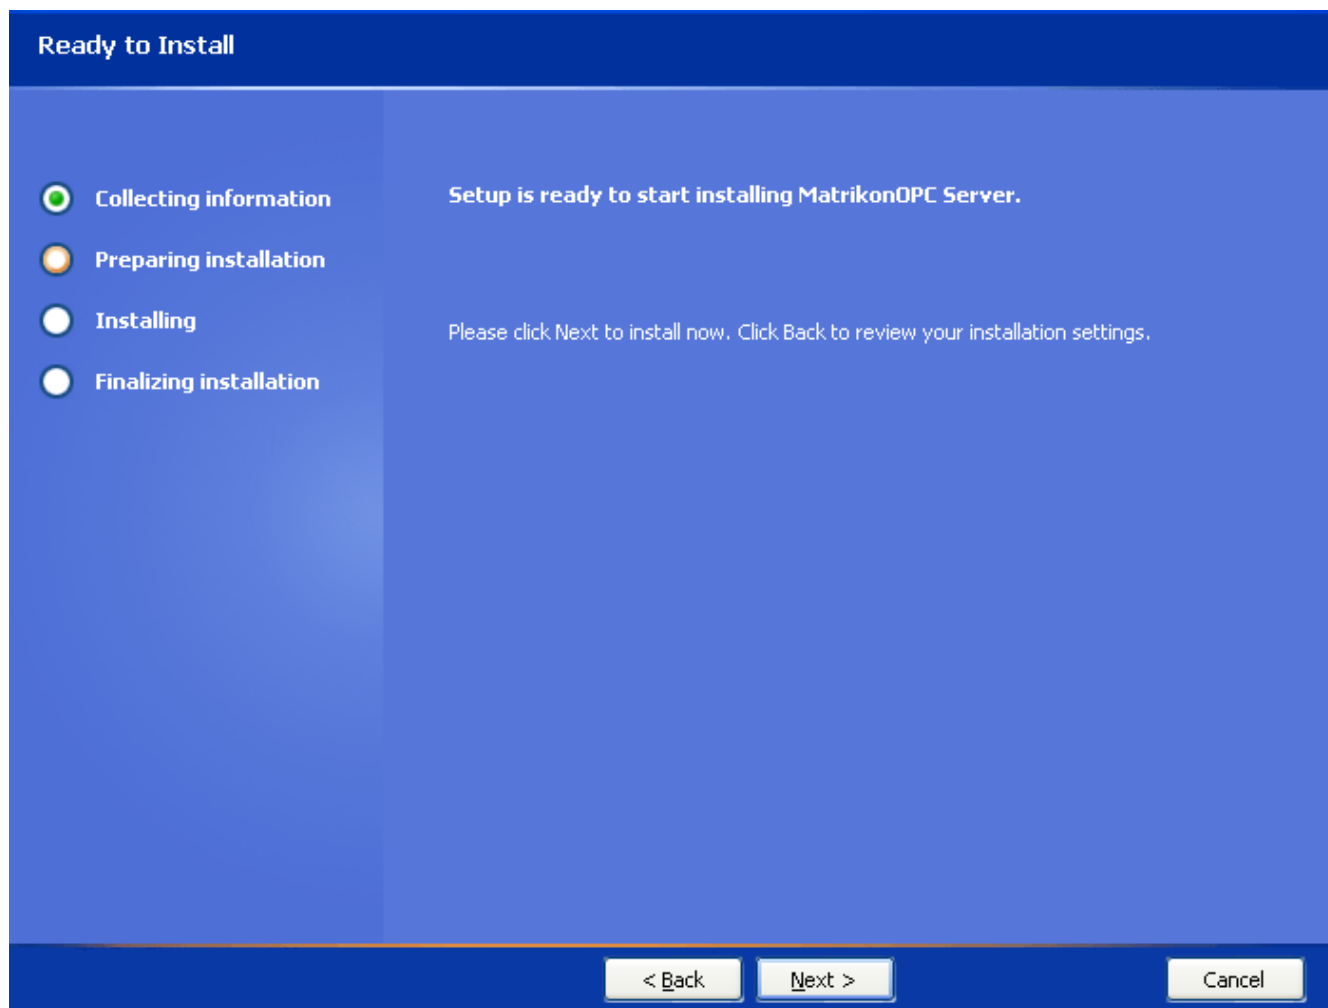

Figure 96 - Ready to Install Screen
18. Click on the **Next** button. The **Ready to Install** screen (Figure 96) appears.